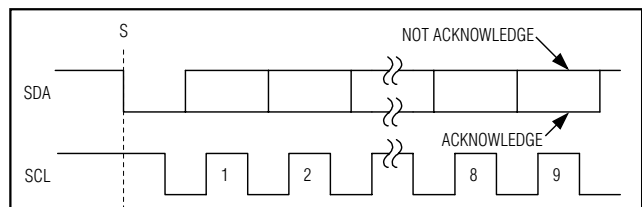

Figure 6. Acknowledge Bits
Data transfers are acknowledged with an acknowledge bit (A) or a not-acknowledge bit (A). Both the master and the MAX1236–MAX1239 (slave) generate acknowledge bits. To generate an acknowledge, the receiving device must pull SDA low before the rising edge of the acknowledge-related clock pulse (ninth pulse) and keep it low during the high period of the clock pulse (Figure 6). To generate a not-acknowledge, the receiver allows SDA to be pulled high before the rising edge of the acknowledge-related clock pulse and leaves SDA high during the high period of the clock pulse. Monitoring the acknowledge bits allows for detection of unsuccessful data transfers. An unsuccessful data transfer happens if a receiving device is busy or if a system fault has occurred. In the event of an unsuccessful data transfer, the bus master should reattempt communication at a later time.